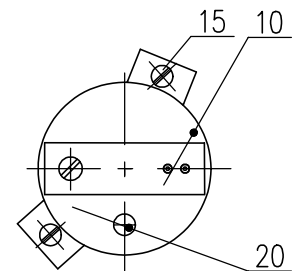

Fig. 9
4.5 Adjustment of the Capacitive Transmitter CPT1/A (Fig.9)